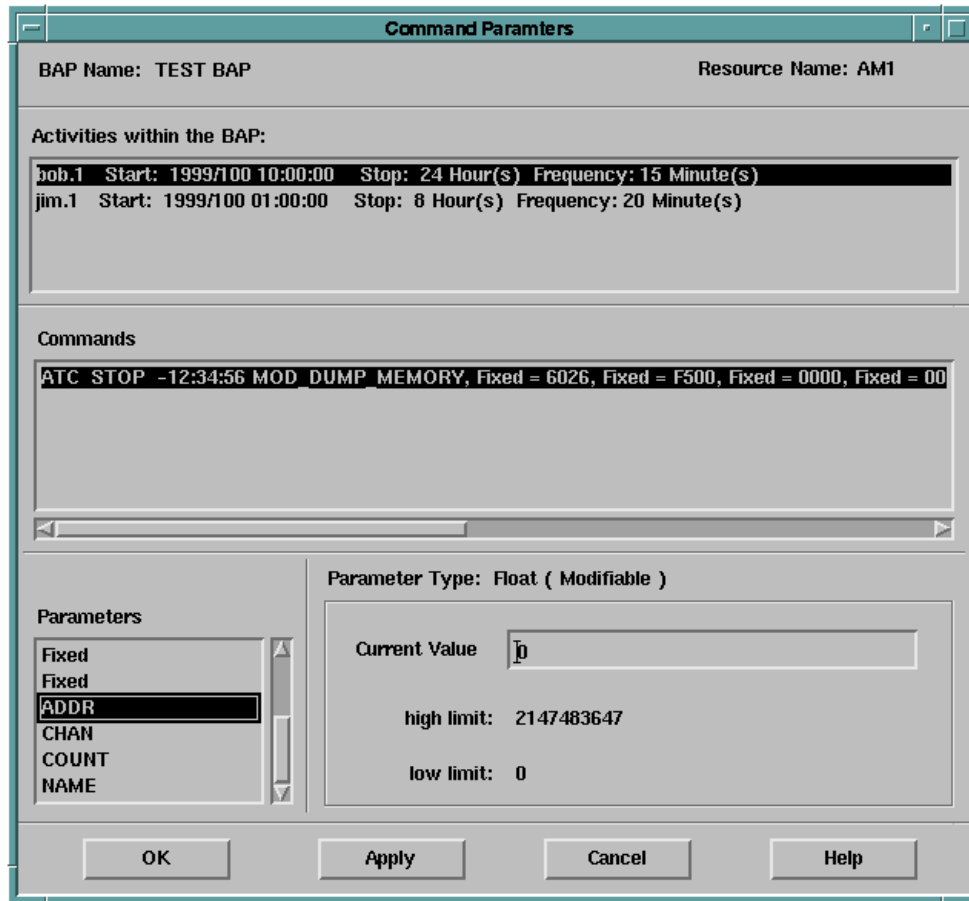

Figure 8.3.1.2.3-1. Parameters Dialog Box
1. Select **Scheduling Info...** from the Modify menu of the BAP Definer window. The Scheduling Information dialog box opens (see Figure 8.3.1.2.4-1).